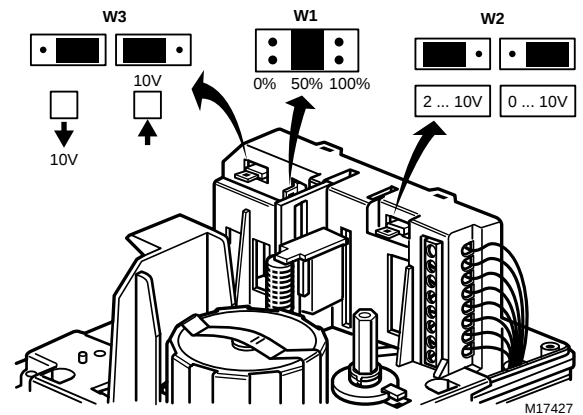

Fig. 12. Location of W1, W2, and W3 selector plugs.
The analog input signal (+) range is set at the factory to 0 to 10 Vdc. Changing the position of the W2 selector plug sets the range to 2 through 10 Vdc. Selector plugs W1, W2, and W3 are positioned on the back side of the printed circuit board. See Fig. 12 for location of the selector plugs.
The direction of the actuator action can be changed by repositioning selector plug W3, which is factory set so that the actuator drives the valve stem down on increasing signal and draws the valve stem up on decreasing signal. With the valve stem up, the output signal from the feedback (F) function is either 0 or 2 Vdc. The output of the signal does not change when W3 is used to reverse the actuator action. See Fig. 12.